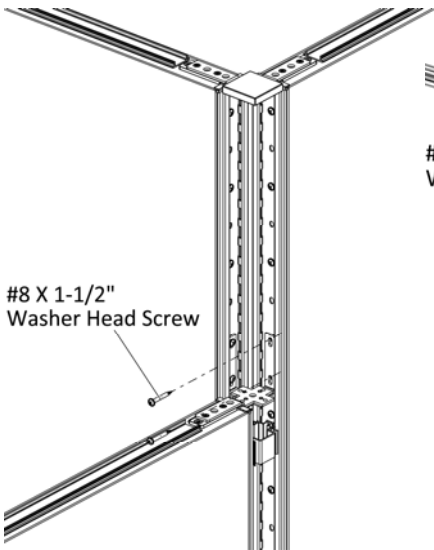

Figure 9
- 16.** Drive two #8 x 1-1/2" Washer Head Screws through the holes in intermediate panel connector into the third panel, (Figure 9).